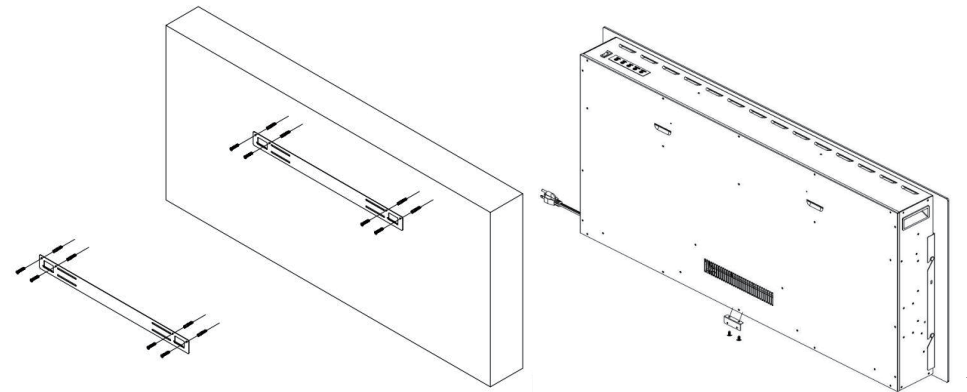

Fig.2
- For optimum viewing, mark the top four screws (fixing positions on the wall in accordance with the recommended fixing dimension; See Fig.2
- Carefully lift up the heater ensuring the top rear ledge of the heater engages with the wall bracket(see Fig.2) and is sitting centrally. This process should be carried out by two people to avoid injury or damage to property or the appliance. Mark the bottom hole position, remove the heater ensuring that the bottom fixing bracket is rotated upwards.